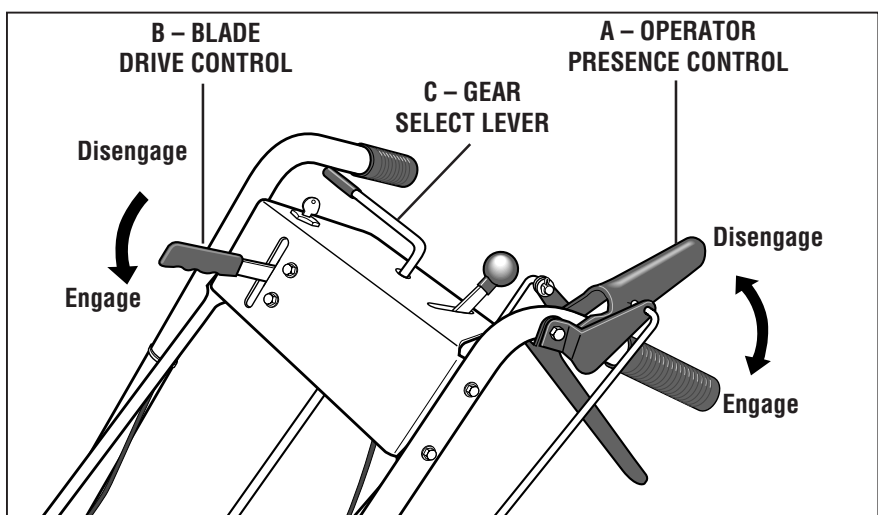
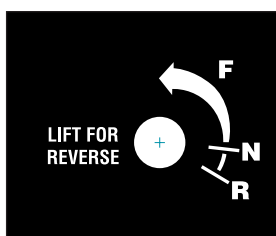

Figure 3-1
Figure 3-2: Shift pattern on console.
The Operator Presence Control lever (A, Figure 3-1) regulates the operation of the rear wheel brake and the separate Blade Drive Control. Always engage this control before engaging the separate blade drive or wheel drive controls. Always disengage this control before starting the engine.
Use this lever (B, Figure 3-1) to engage drive to the mower blades.
To engage the blades, first engage the Operator Presence Control (A, Figure 3-1). Then, push the spring-loaded Blade Drive Control lever (B) forward until it stays in the engaged position.
Use this lever (C, Figure 3-1) to select any of four forward ground speeds (1 - Slow, 2 and 3 - Medium, 4 - Fast), N (Neutral) and R (Reverse). The gear shift pattern is shown in Figure 3-2.